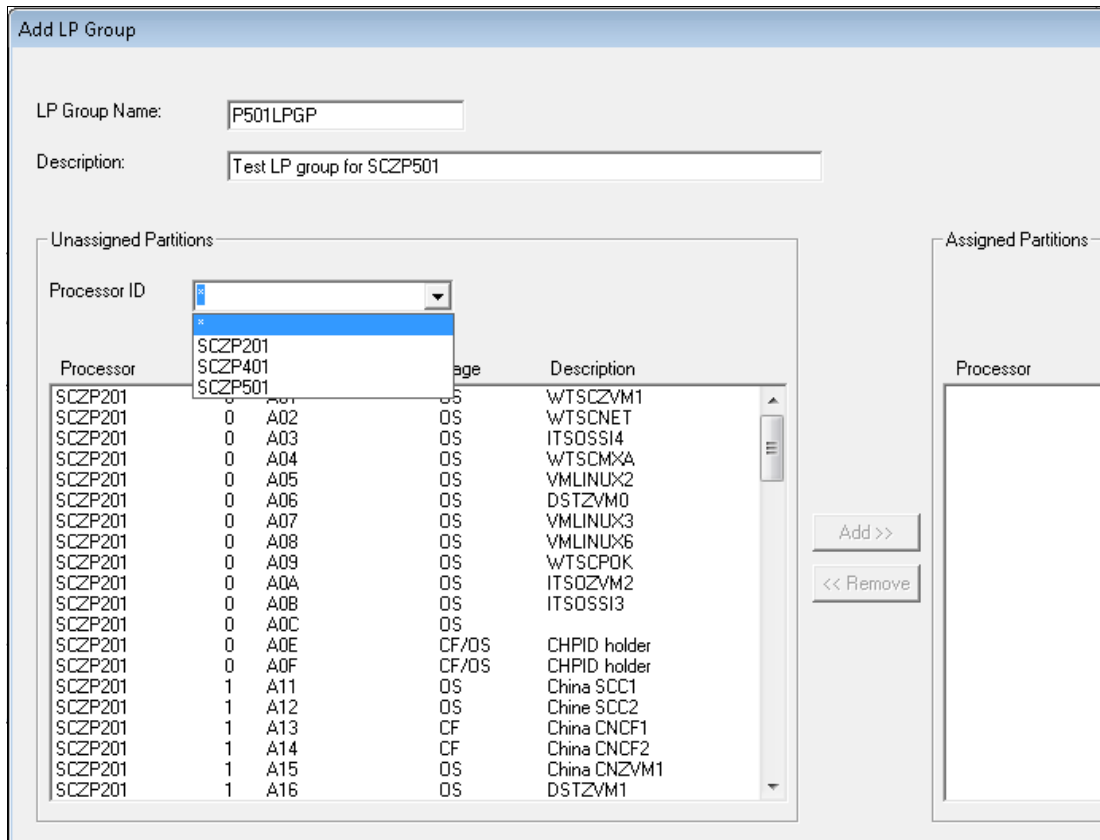

Figure 4-42 HCM - Add LP Group: selecting Processor Ids to add to an LP Group
2. In the example, enter an LP Group Name and Description, and then select the **Processor ID** menu to show a list of all defined processors in this IODF (Figure 4-42).